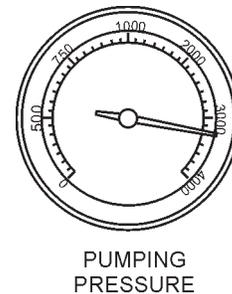

Figure 44. Pumping Pressure Gauge
13. The Pumping Pressure Gauge (Figure 44) should read approximately 3100 ± 50 PSI.